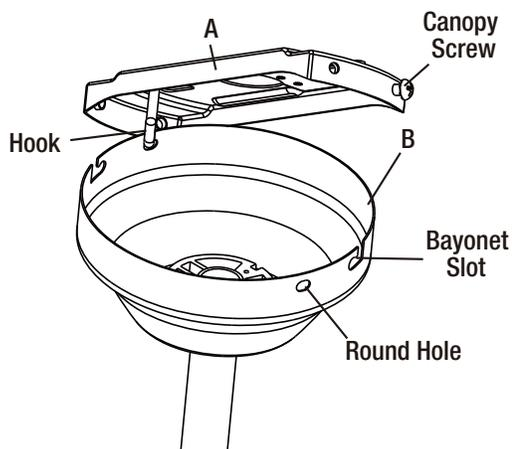

Figure 7
- Before making the electrical connections, engage one of the screw holes at the top of the ceiling canopy with the hook on the mounting plate (A) (Figure 7).